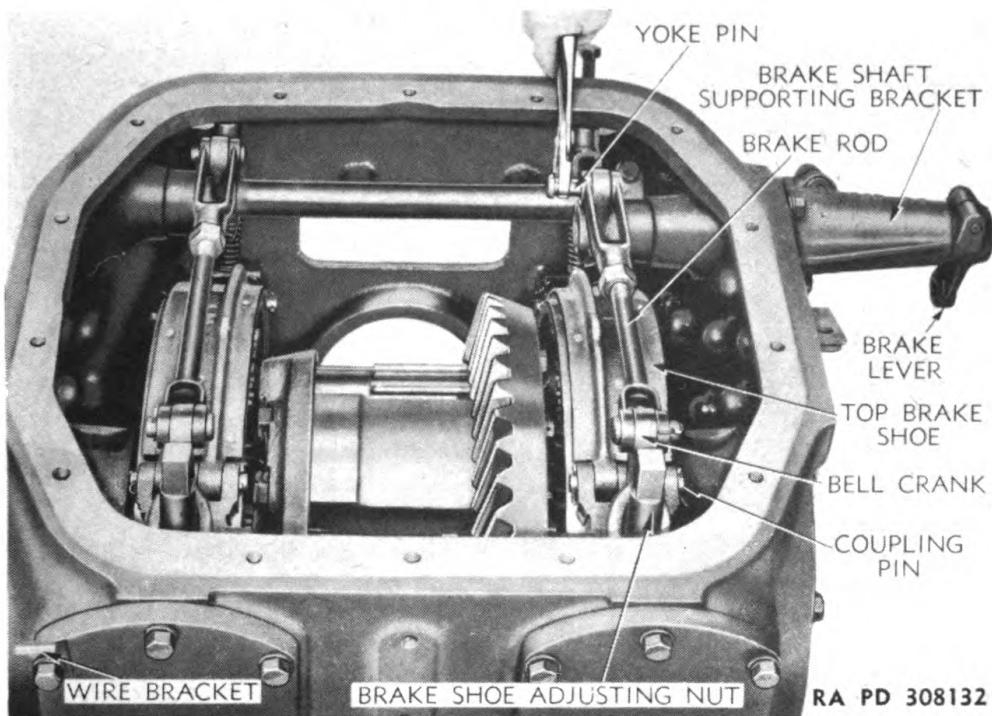
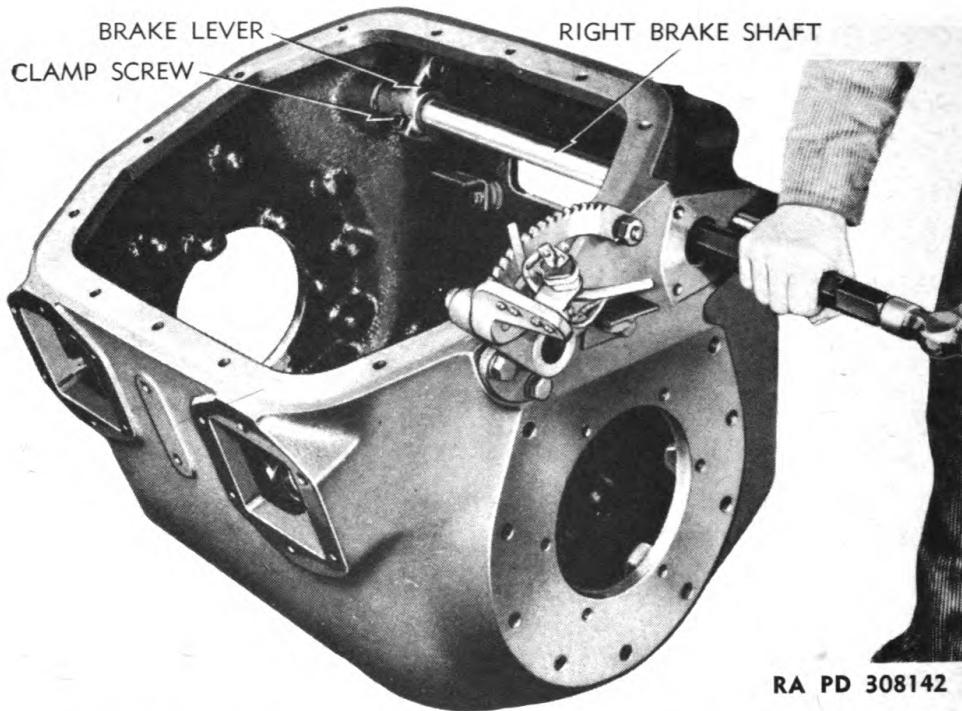

Figure 32 — Disconnecting Steering Brake Rod From Lever
Figure 42 – Removing Brake Shaft Bushing, Using Remover (41-R-2376-290)
a. Remove Brake Linkage. Pull cotter pins and end yoke pins and remove steering brake rods (fig. 32). Disconnect both ends of top brake shoes by removing coupling pins and remove both top shoes. Remove cotter pin and flat washer from outer end of each brake shoe and bell crank pin (lower pin in anchor) and remove these pins. Remove brake shoe adjusting nuts from brake shoe yokes. Remove the six attaching cap screws from each brake anchor, maneuver anchors to remove anchor pins from anchors and brake shoe
g. Remove Brake Control Shafts From Housing (fig. 42). Cut and remove lock wires in clamp screws in collar and lever on long shaft. Remove clamp screws from collar and lever. Remove pipe plug from housing at end of long control shaft (fig. 34). Remove clamp screw, then tap lever off outer end of shaft (fig. 32). Remove